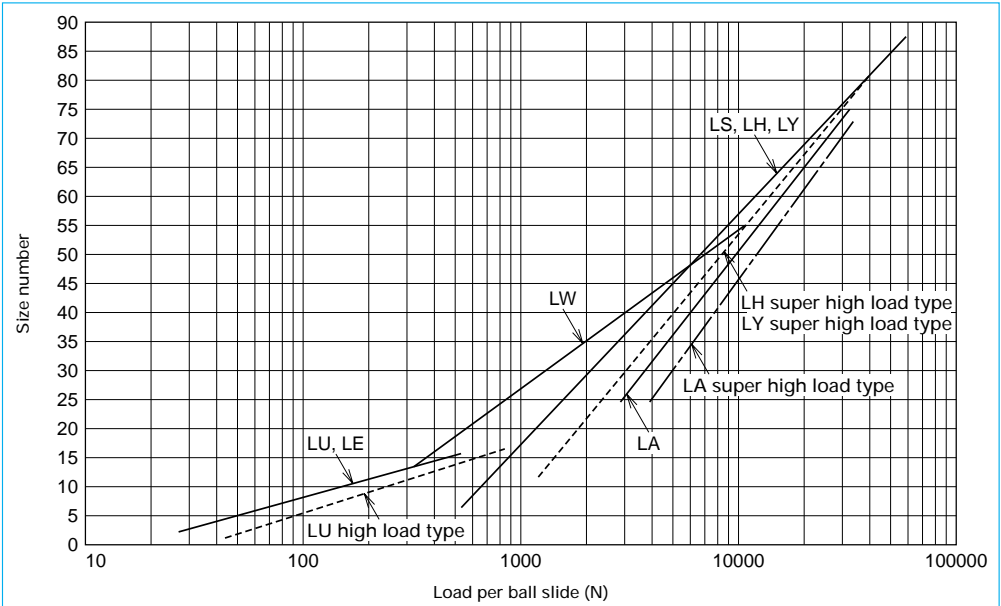

Fig. I-3-4 Selection based on the load
• Loads applied to the types recommended in Fig.I-3-4, I-3-8, and I-3-9 are equivalent to 10% of the basic dynamic load rating of the linear guide. This contributes to select a size number with a longer life.
The appropriate size is around 30 for LH, LS, and LY types according to Fig. I-3.4. Confirm the size (Model number) in **"A-I-5 Model Number and Dimension Table."** The correct linear guide size is **LH30AN**.